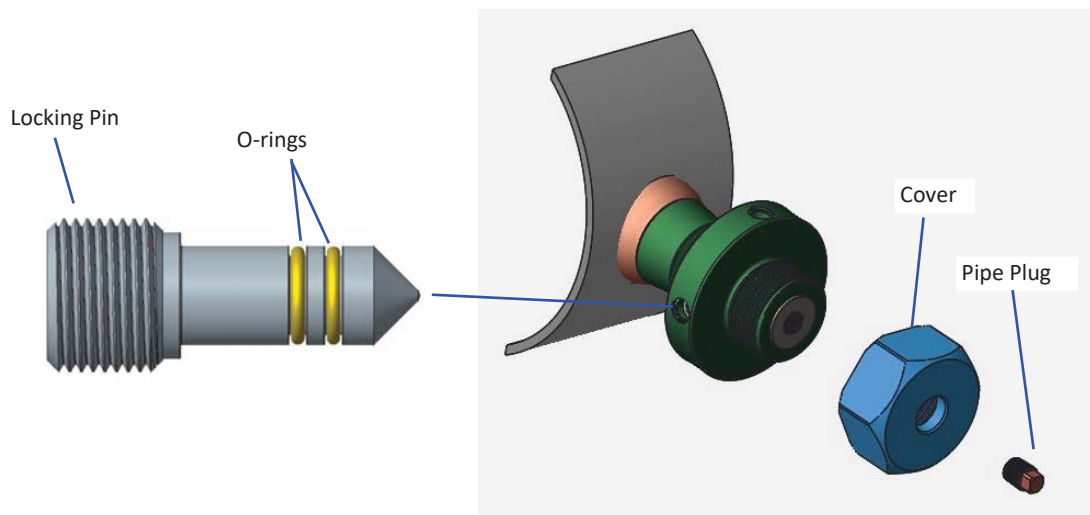

Fig. 3
4. **Inspect, and, if necessary, clean the hole in the access fitting, particularly the surface against which the O-rings seal. (fig. 3)**